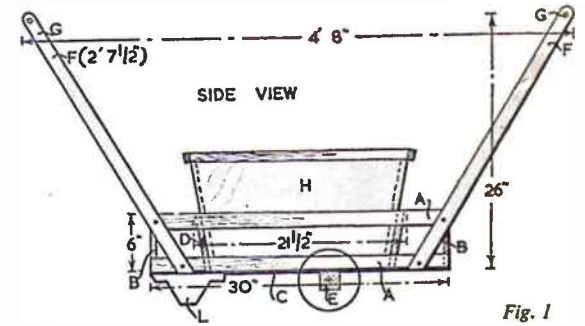
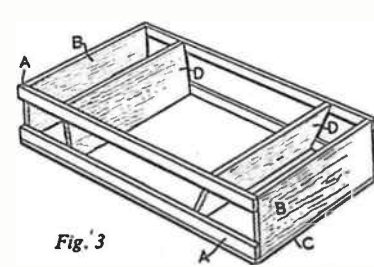
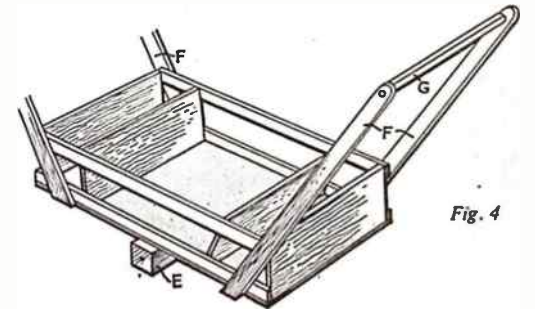

Fig. 1
Fig. 3
Fig. 4
The side and end views (Figs. 1 and 2) show main measurements and the general arrangement of parts. Read
Commence by making up the carcass as shown in Fig. 3. The sides (A) are 30ins. long and cut from 1 1/2in. by 1/2in. wood. The ends (B) are 1/2in. thick and are 17ins. long by 6ins. wide. The bottom (C) may be of 1/2in. hardboard or resin bonded plywood. The pieces (D) may be prepared, but not fixed at the moment. The axle (E) is cut from 2in. square wood 19ins. long and is fixed forward of the centre line as indicated in Fig. 1.
Cut the handles from 1 1/2in. by 1/2in. or 3/4in. hardwood and bore to take the 3/4in. diameter crossbars (G). Fix to the sides (A) in the positions shown in the side view (Fig. 1) and in Fig. 4. The foot (L) is cut from 3/4in. wood to the shape shown. The exact size is not critical and will depend upon the size of wheel used.
A ribbed path has the advantage of providing channels down which excess rain water can be made to run away more quickly. Corrugated cardboard is all that is needed to provide this surface (see Fig. 4). After trowelling off the concrete surface as smooth as possible whilst still semi-wet, lay the corrugated cardboard on the surface and press it in gently and evenly. Leave it there until the concrete has set really hard. You will then find that the corrugated cardboard will peel off quite easily.